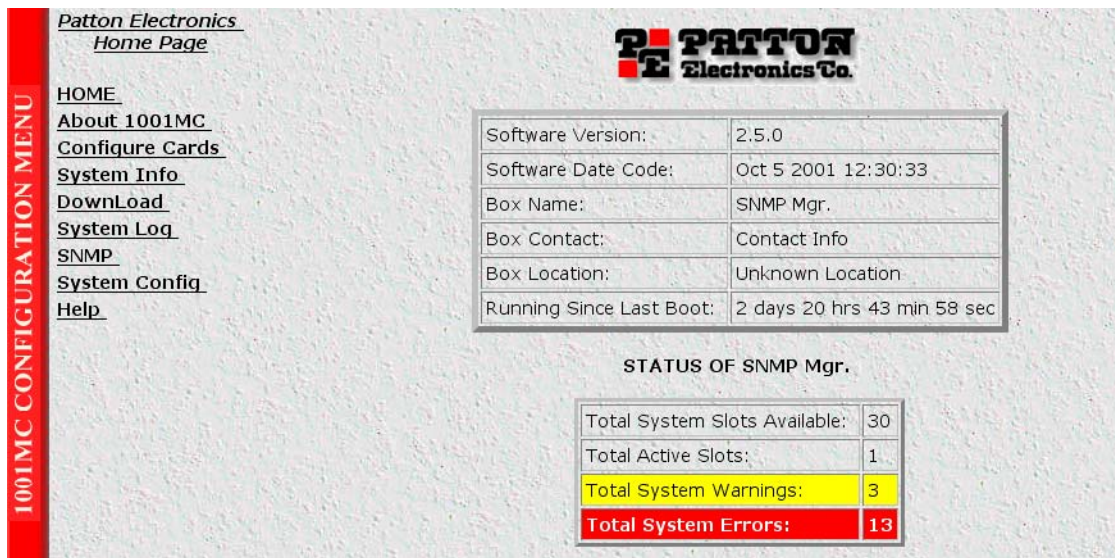

Figure 139. Home page displaying warnings and errors
- Home page (see figure 139 on page 279)